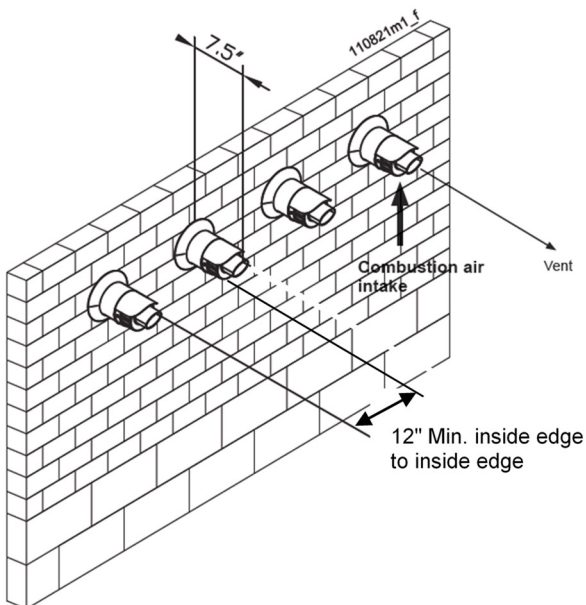

Figure 9.20
When two (2) or more direct vent appliances are vented near each other, each appliance must be individually vented (see Figure 9.20). NEVER common vent or breach vent this appliance. When two (2) or more direct vent appliances are vented near each other, two (2) vent terminations should be installed as shown in Figure 9.20. It is important that vent terminations be made as shown to avoid recirculation of flue gases.